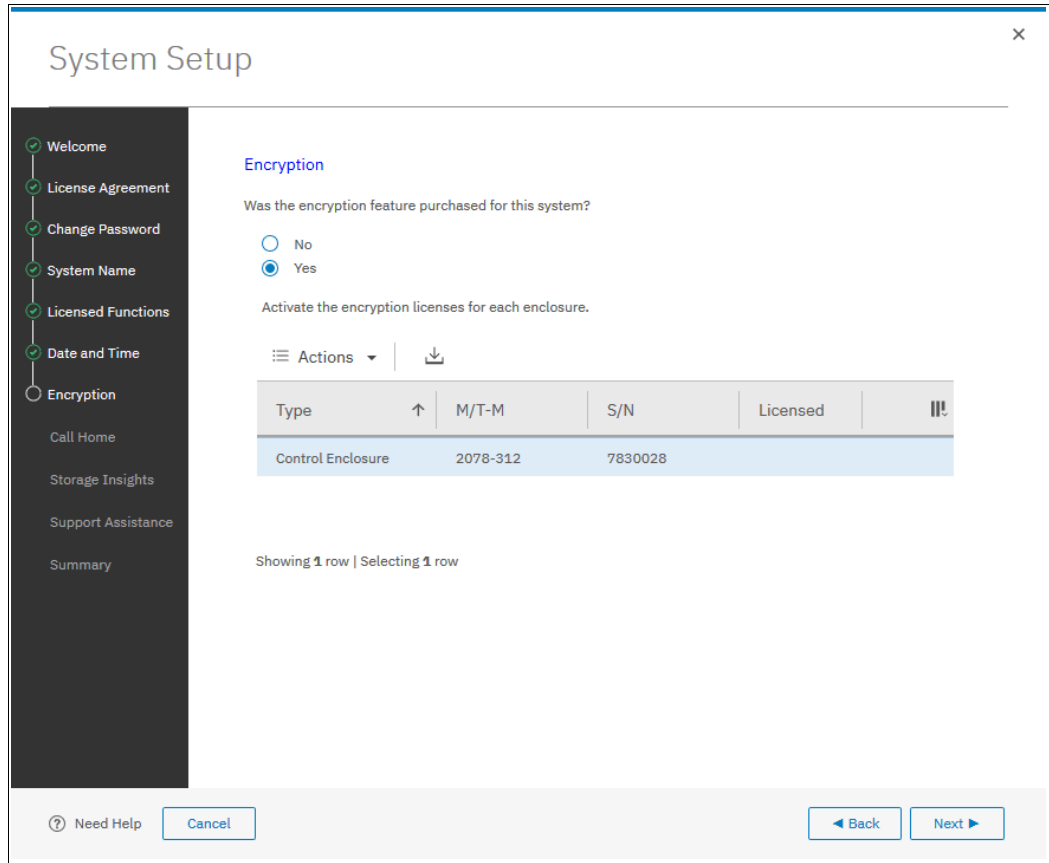

Figure 13-6 Information storage system during initial system setup
- The Encryption window displays information about your storage system, as shown in Figure 13-6.